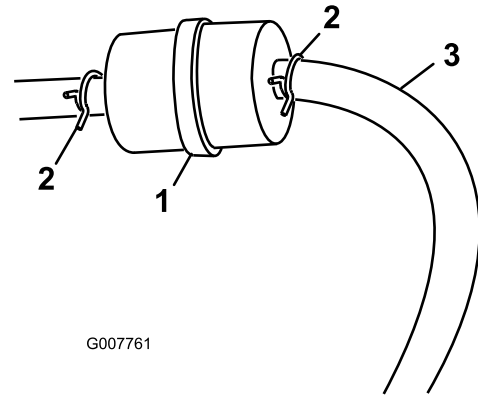

Figure 26
3. Squeeze the ends of the hose clamps together and slide them away from the filter (Figure 26).
5. Install a new filter and move the hose clamps close to the filter (Figure 26).
3. Loosen the hose clamp at the fuel filter and slide it up the fuel line away from the fuel filter (Figure 26).
4. Disconnect the fuel line from the fuel filter (Figure 26).
Note: Allow gasoline to drain into a fuel container can or drain pan (Figure 26).
5. Install the fuel line onto the fuel filter. Slide the hose clamp close to the fuel filter to secure the fuel line (Figure 26).